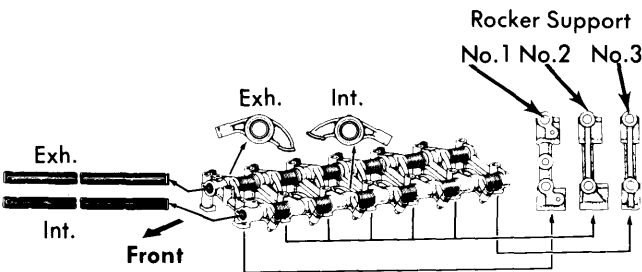
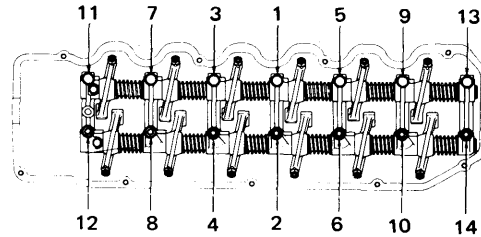

Fig. 5 Reassembly Locations for Rocker Arms and Supports
Fig. 6 Rocker Arm Tightening Sequence
- 2) Remove attaching bolts and oil union between number one camshaft bearing cap and number one rocker arm assembly support. Loosen rocker shaft attaching bolts in sequence shown in Fig. 6
3) Assemble rocker arm assembly in reverse of removal and install on cylinder head see Fig. 5. Tighten bolts gradually in sequence shown in Fig. 6 taking three or four steps. Install oil union between number one rocker shaft support and number one camshaft bearing cap.